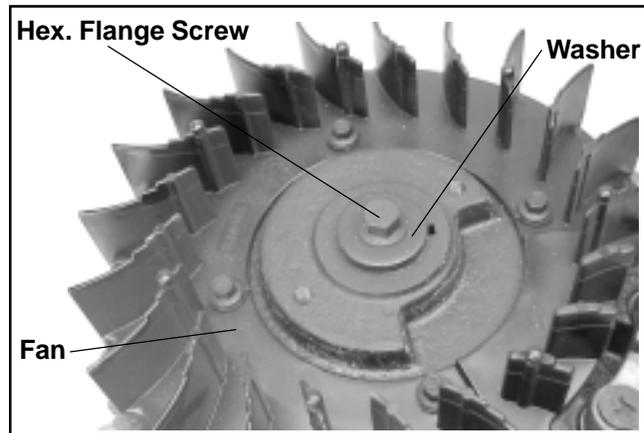

Figure 11-30. Installing Flywheel Retaining Screw and Washer (Electric Start Models).
**Electric Start Models:** Install the plain washer and the hex. flange screw. See Figure 11-30.